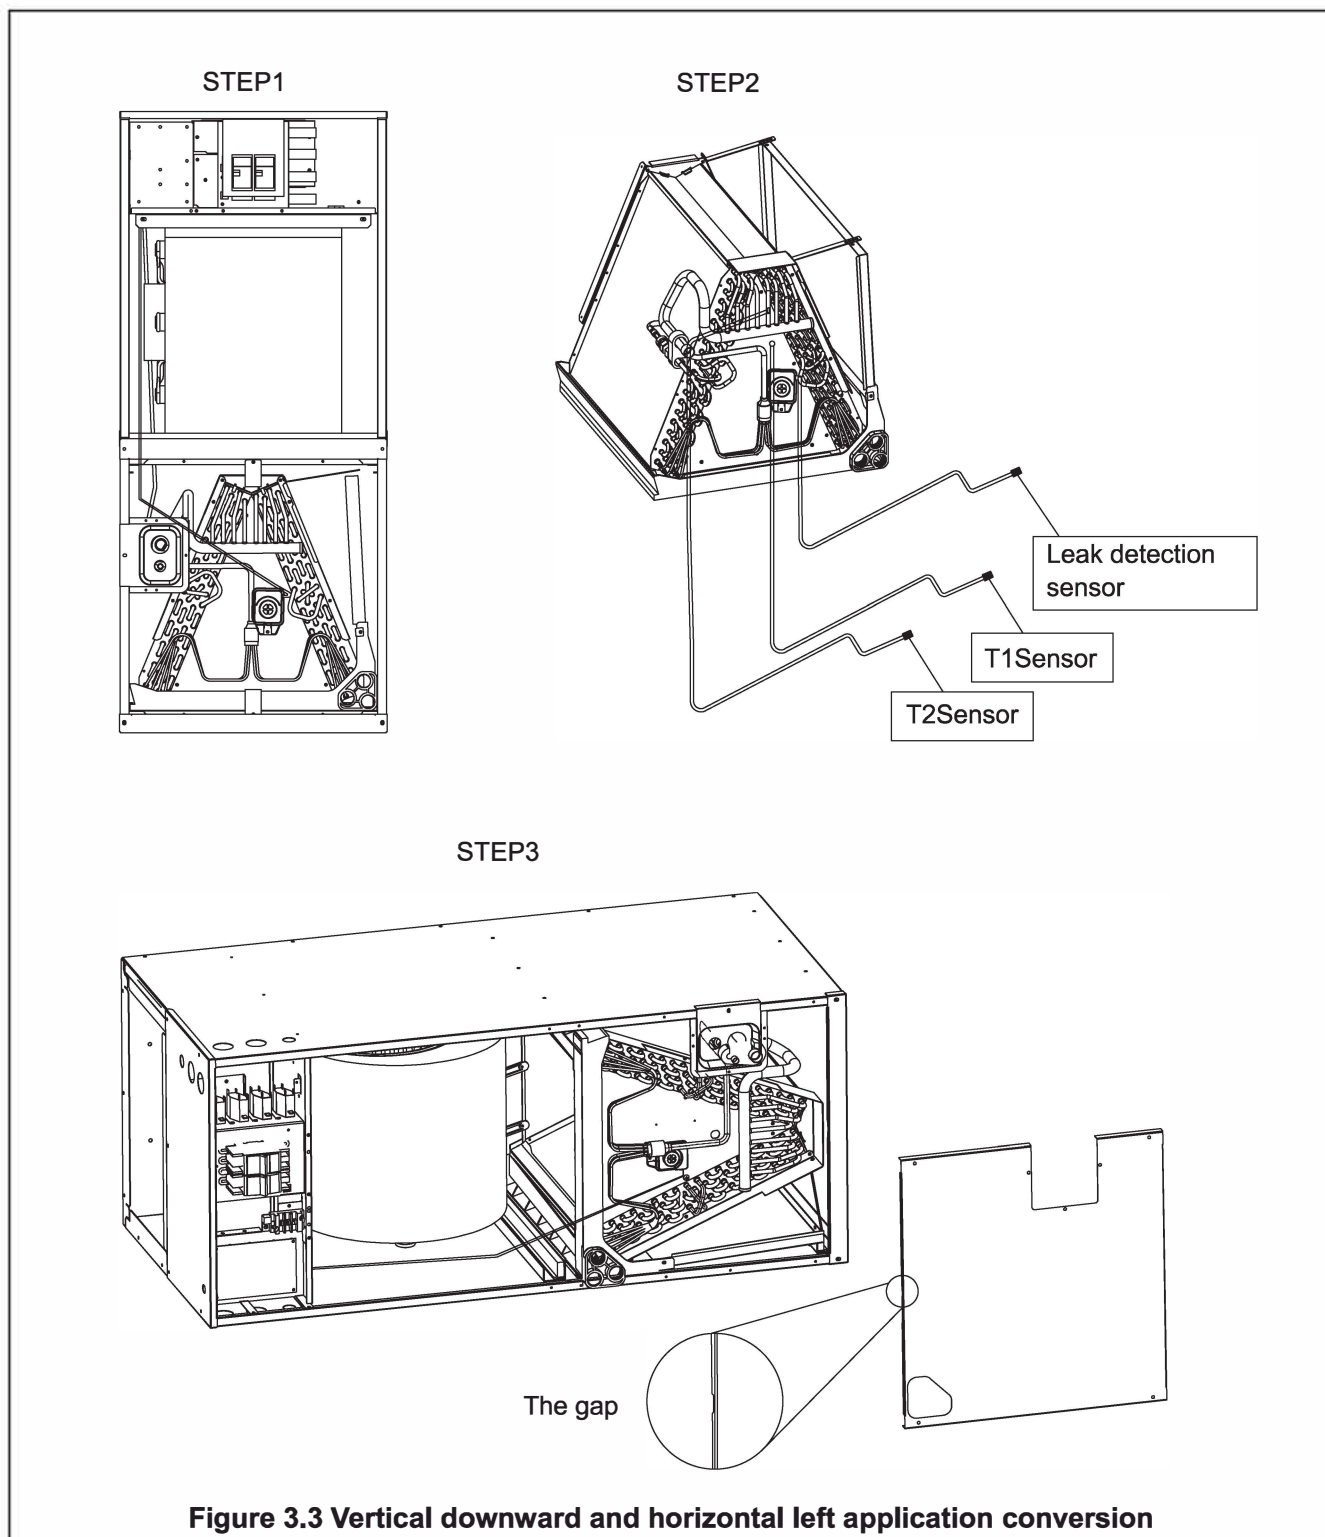

Figure 3.3 Vertical downward and horizontal left application conversion
- By removing the indoor coil assembly and reinstalling the coil, the vertical upflow position can be converted into a horizontal left position, See Figure 3.3 and 3.4.
1. Remove the screws and the front panel, and disconnect the plug of T1 sensor, T2 sensor and leak detection sensor wire from the circuit board (Figure 3.3, Step 1).
2. Pull out the coil with sensor wire (do not disconnect T1 sensor, T2 sensor and leak detection sensor from the coil). (Figure 3.3, Step 2)
3. Install the coil in the correct direction and fix it in place. Reinsert those sensor wire in PCBA through the gap on the cabinet cover (Figure 3.3, Step 3).